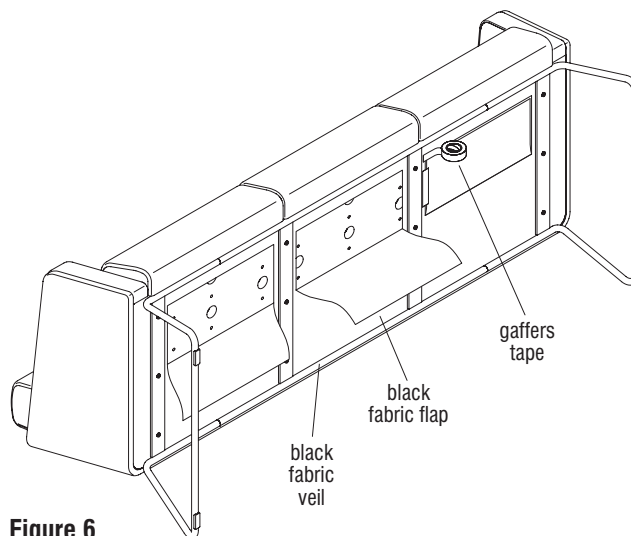

Figure 6
- For cut flaps of the black fabric veil, reattach the fabric flap underneath the lounge unit by applying 2" wide Gaffers tape strips along the cut line of the fabric flap, and the fabric veil underneath the base of the lounge (Figure 6 & Detail I).